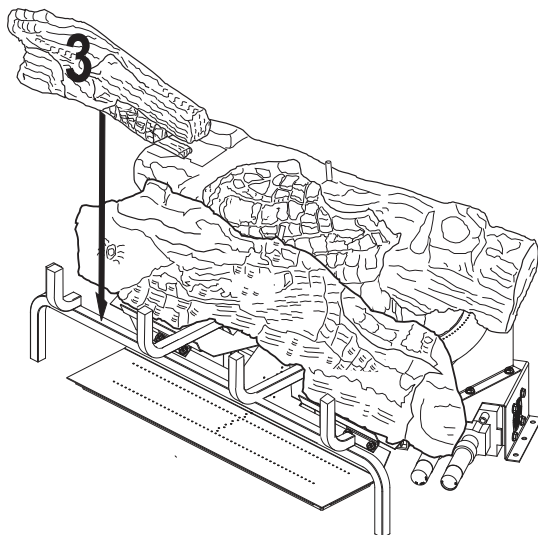

Figure 39 - Installing Log # 3
3. Place the front left log (#3) onto the base assembly between the middle log (#2) and the grate fingers. The back of the front left log (#3) will rest against the front of the middle log (#2). The notch at the end of the front left log (#3) will fit around the grate bar. See **Figure 39, Page 22**.